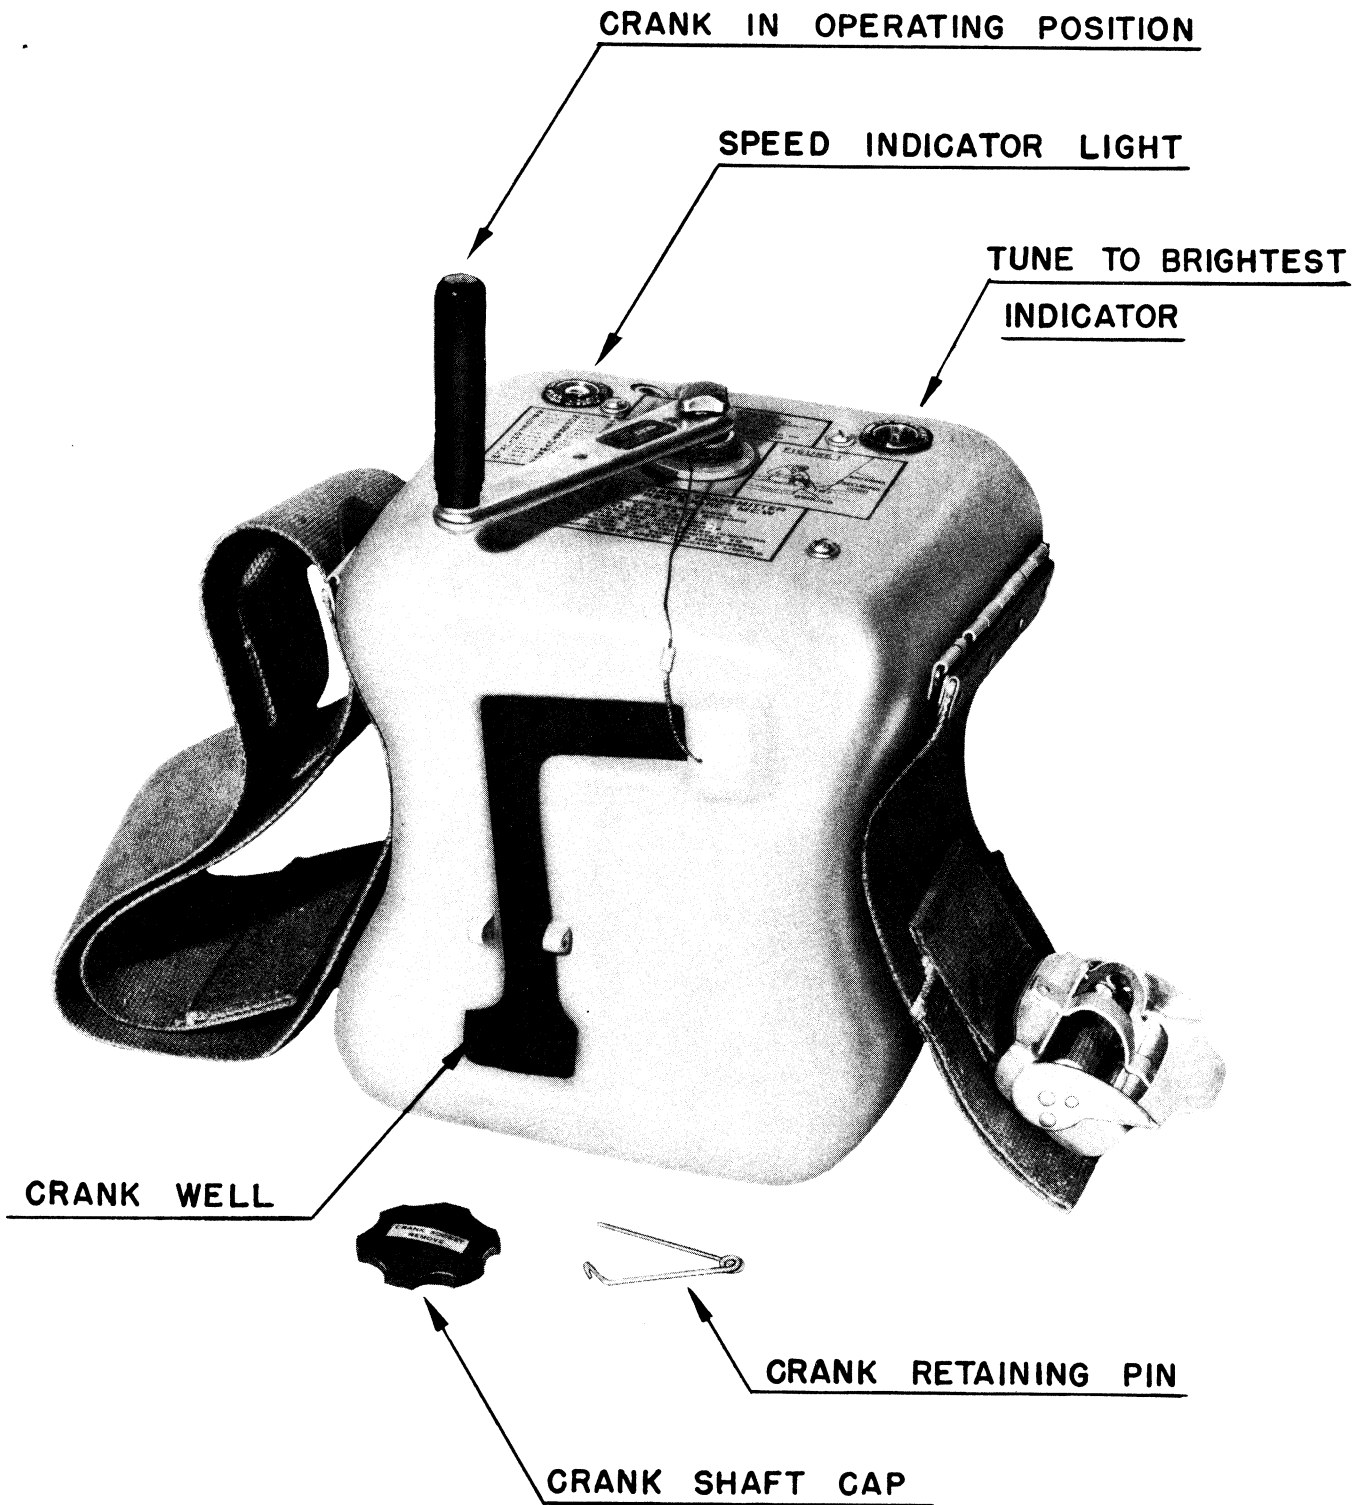
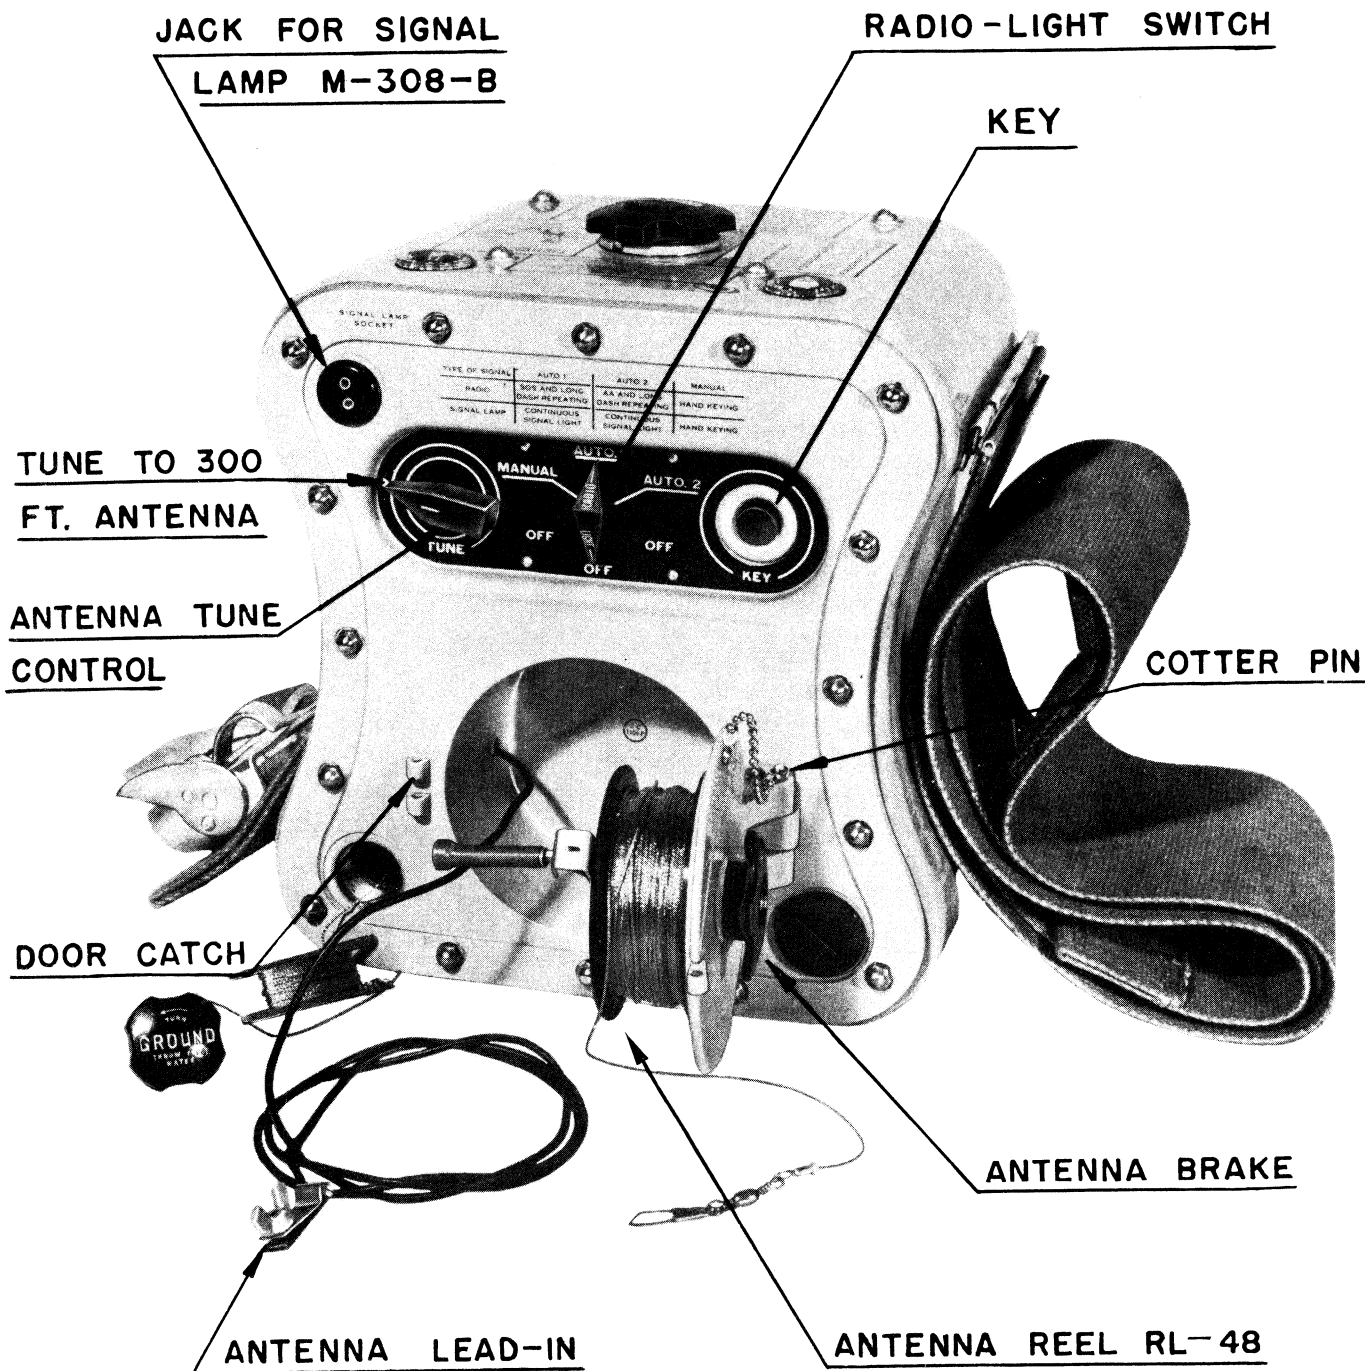

Figure 13—Radio Transmitter BC-778-E, Rear Oblique View
Figure 14—Radio Transmitter BC-778-E, Front Oblique View
are grouped in the elongated oval depression on the front panel. Reel RL-48, holding 300 feet of Antenna Wire W-147 or W-148 (see fig. 14) is in a compartment also mounted on the front panel. A strap is provided for securing the transmitter between the legs of the operator (see figs. 13 and 20). Various models of the radio transmitter differ only in details of electrical or mechanical design. The differences are summarized as follows:
(2) Bag BG-110-A (see fig. 9) contains the radio transmitter with Hand Crank GC-18-A (see fig. 13) affixed. Permanently attached to this bag is Parachute M-276-A with static cord and snap fastener. Included in the bag is a second copy of this handbook of instructions.
*b.* Antenna Reel RL-48 is accessible from the transmitter front panel by removing the cotter key and opening the antenna-reel compartment door. If you have either Radio Transmitter BC-778-D or Radio Transmitter BC-778-E, keep the door open by sliding the cotter key into the holes provided at the door hinge in these two models (see fig. 14). Take enough slack wire from the reel to attach to the kite or the balloon. Adjust brake tension on the reel and maintain a slight tension by rotating the BRAKE knob clockwise.
*k.* Remove the cap located at the top center of the transmitter, making the crank socket available (see fig. 13). In the well on the back of the transmitter is Hand Crank GC-18-A. It is affixed to the case by a leash and is made available by the removal of the locking pin. The leash is long enough to enable the crank to reach the socket and must not be broken. Insert the crank into its socket and tighten the thumb screw. Save the cap as it should be replaced if crank is removed.
Operating the transmitter requires a comparatively high turning torque. To assure stability so that this may be accomplished, a belt assembly is affixed to the case of the transmitter (see figs. 14 and 20). The operator will assume a sitting position and strap the unit between the legs just above the knees, with the front panel facing away from him. Pass the strap over the left leg. Next, bring it underneath both legs, and buckle it above the right leg. The equipment is now ready for use.
b. Rotate the crank in a clockwise direction at approximately 80 r.p.m. When sufficient speed has been attained, the ballast lamp (marked SPEED INDICATOR KEEP LIGHTED; see fig. 13) located on the top of the unit will light. Faster crank speeds are ineffective, as the transmitter contains automatic voltage-regulating and governing devices.
c. Continue cranking, allowing at least 20 seconds for the filaments of the vacuum tubes to warm. Next, tune the antenna to resonate with the transmitter. Accomplish this by adjusting the TUNE control so that maximum brilliance of the TUNE TO BRIGHTEST indicator (see fig. 13) is obtained. If the entire antenna is out (300 ft.) the TUNE knob will be at about the "9 o'clock" position. This approximate position is marked on the panel. If a shorter antenna is used, correct tuning will still be indicated at the point of maximum brilliance, but with the knob at a different position on the panel. In bright sunlight it may be necessary to shade the TUNE TO BRIGHTEST indicator so that the point of maximum brilliance may be observed. The indicator will flash off and on with the keying of the transmitter, indicating that radiation is occurring.
f. In the MANUAL position, the operator, by manipulating the push button marked KEY (see fig. 14), may send his own telegraphic transmissions. This button KEY is manipulated most conveniently with one of the first two fingers of the left hand, arm rather than finger motion being desirable. Should a second person be available, one might crank and the other telegraph.
Signal Lamp M-308-A or M-308-B may be used for visual signaling at night if an aircraft is heard. This does not necessitate an antenna. Merely remove the transmitter from its bag and insert the crank in its socket as instructed previously. Next, obtain the signal lamp from the accessory bag. Plug the cord attached to the signal lamp into the socket at the upper left corner of the control panel on the transmitter (see fig. 14). Strap the transmitter between the legs, set the RADIO-LIGHT selector-switch knob so that the end marked LIGHT points either to AUTO 1, AUTO 2, or MANUAL. In either of the AUTO positions, con-
*e.* The automatic keying mechanism has code wheel E-101A, E-101B, and E-101C consisting of three ledges which contain code characters as raised surfaces. As these discs are rotated, they actuate a set of contacts K-102A, K-102B, and K-102C which key the transmitter. The mechanism also contains cam switch E-103 which operates switches S-104A and S-104B, completing a cycle each forty seconds. The purpose of this cam is to change the characters of the transmitted signal every twenty seconds. The KEY (S-102) is a push button used to key the transmitter manually. The character of transmission is selected by the six-position switch S-103. A choice of AUTO 1, AUTO 2, and MANUAL is available for radio transmissions. The AUTOMATIC positions for the signal light provide only continuous light (except in Radio Transmitter BC-778-A or BC-778-B, which provide automatic keying of the light); the MANUAL position allows signal-light keying. Signal-light jack J-102, located on the front panel (see fig. 14), provides for plugging in the signal-light assembly.